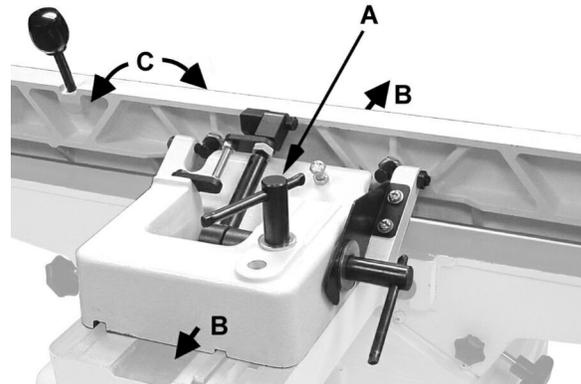

Figure 8-2
1. Loosen locking handle (C, Figure 8-2).
2. Move the lever forward (A, Figure 8-2) to the desired angle down to 45 degrees. Or you can place your reference piece on the table and against the fence, and adjust the fence until the angle of the fence matches the bevel of your gauge piece.
3. Tighten locking handle (C, Figure 8-2).
2. Loosen locking handle (C, Fig. 8-2).
3. Flip the 90° stop block (D, Fig. 8-2) out of the way.
Move the lever (B, Fig. 8-2) back to the desired angle up to 135 degrees. Or you can place your beveled reference piece on the table and against the fence, adjusting the fence until the angle of the fence matches the bevel of your gauge piece.
5. Tighten locking handle (C, Fig 8-2).
4. **Important:** When the tilted operation is finished and the fence is returned to 90°, do not forget to flip the 90° stop block (D, Fig. 8-2) back to its original position.
6. Loosen locking handle (C, Fig. 8-2).
7. Flip the 90° stop block (D, Fig. 8-2) out of the way.
8. Move the lever (B, Fig. 8-2) back to the desired angle up to 135 degrees. Or you can place